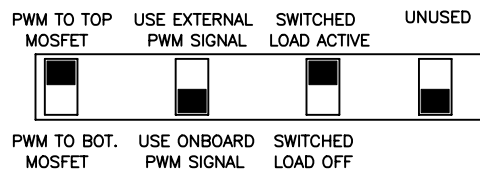

Figure 5.2: Switch Positions for Flyback Converter controller with switched load
- Switch ON the switched load to the active position, using the selector switch bank as shown in Fig.5.2.